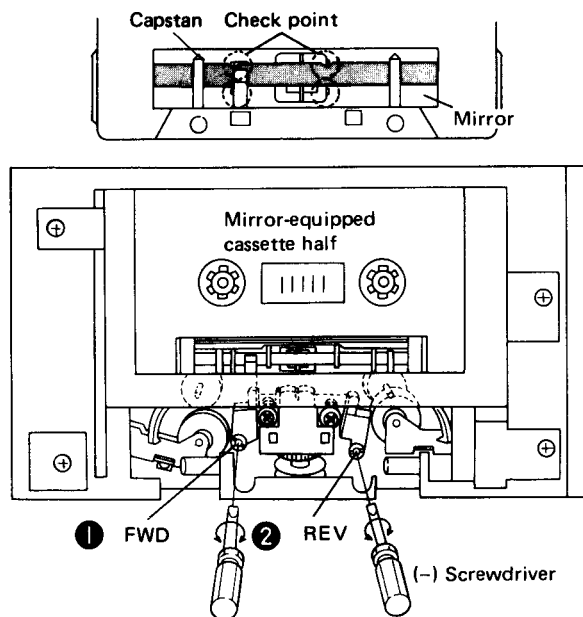

Fig. 3 Tape transport adjustment
3. Adjust the adjust nut ① so that no curling takes place on REC/PB head guide and erase head guide as shown in Fig. 3.
5. Adjust the adjust nut ② so that no curling occurs on REC/PB head guide and erase head guide.